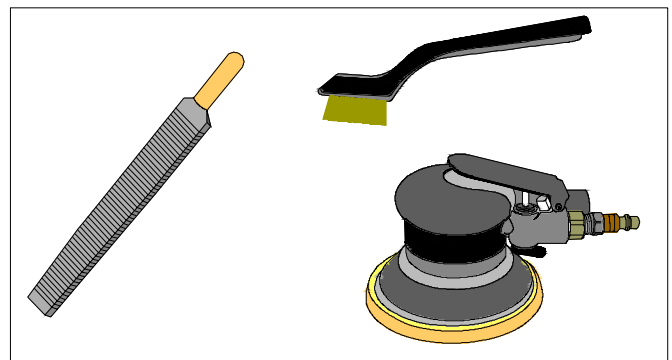

Figure 3C
- Sanders (FIG. 3C)
- Laminate file (FIG. 3C)